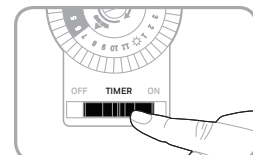

Figure 3
2. Place the slide switch in the TIMER position (See Figure 3).